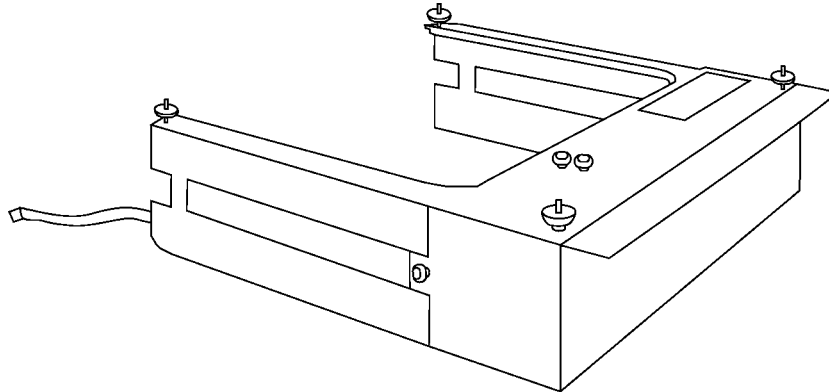

Figure 6.3-1
- (1) Figure 6.3-1 shows the scale unit.